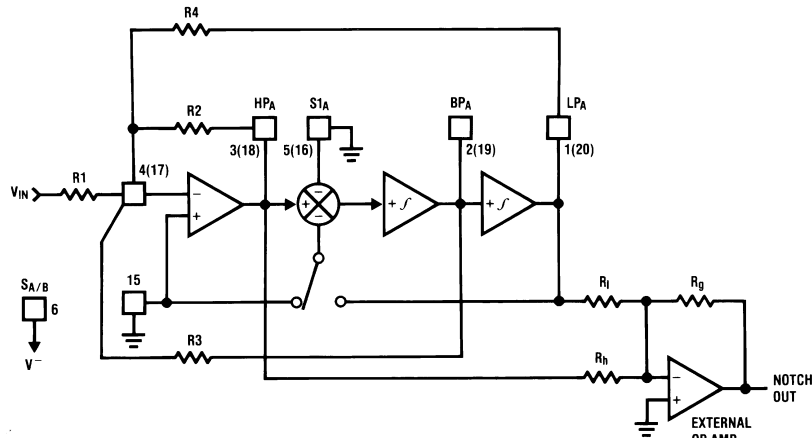

Figure 27. MODE 3a
**MODE 3a: HP, BP, LP and Notch with External Op Amp (See Figure 27)**
The MF10-N is a general-purpose dual second-order state variable filter whose center frequency is proportional to the frequency of the square wave applied to the clock input ( $f_{CLK}$ ). By connecting pin 12 to the appropriate DC voltage, the filter center frequency  $f_0$  can be made equal to either  $f_{CLK}/100$  or  $f_{CLK}/50$ .  $f_0$  can be very accurately set (within  $\pm 6\%$ ) by using a crystal clock oscillator, or can be easily varied over a wide frequency range by adjusting the clock frequency. If desired, the  $f_{CLK}/f_0$  ratio can be altered by external resistors as in Figure 25, Figure 26, Figure 27, Figure 29, Figure 30, and Figure 31. The filter Q and gain are determined by external resistors.